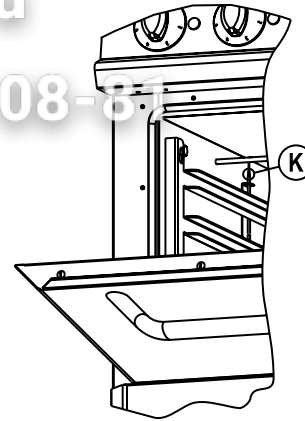

Fig.3
- Be careful not to damage the thermostat sensor "K" (fig.3) inside the oven while you are cleaning it.